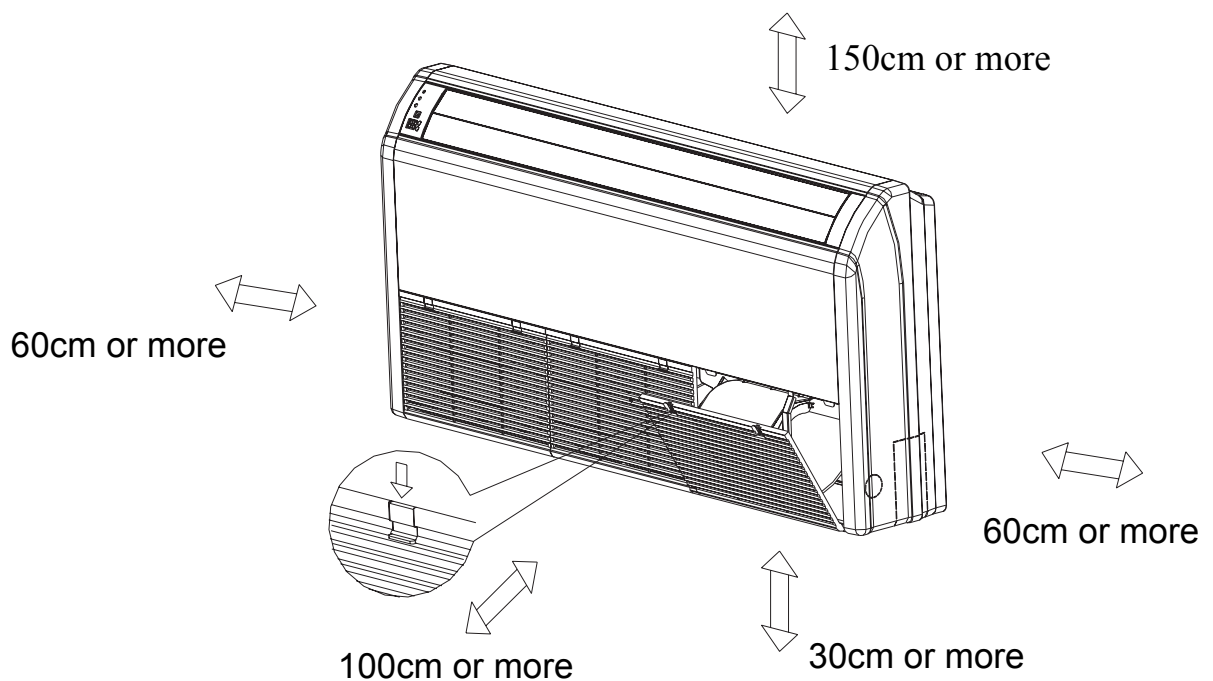

Fig. 11-3
- The space around the unit is adequate for ventilation (see Fig. 11-3).